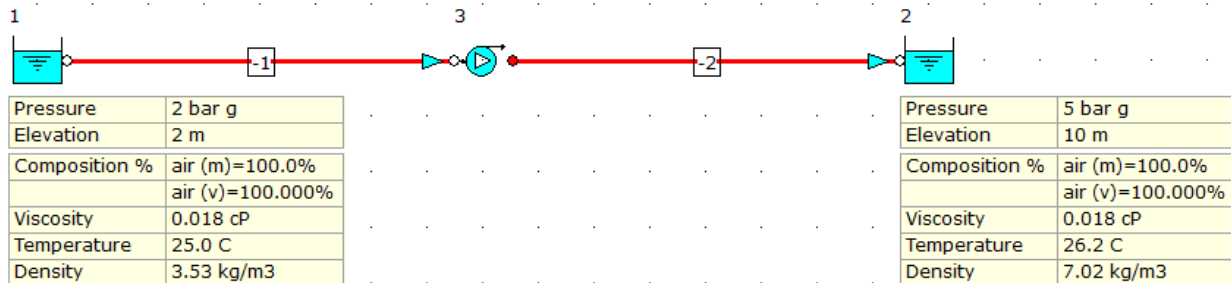

Figure 51: Hydraulic Model with Inlet and Outlet Boundary Properties.
53. The hydraulic model should now look like the screenshot given below (Figure 51).